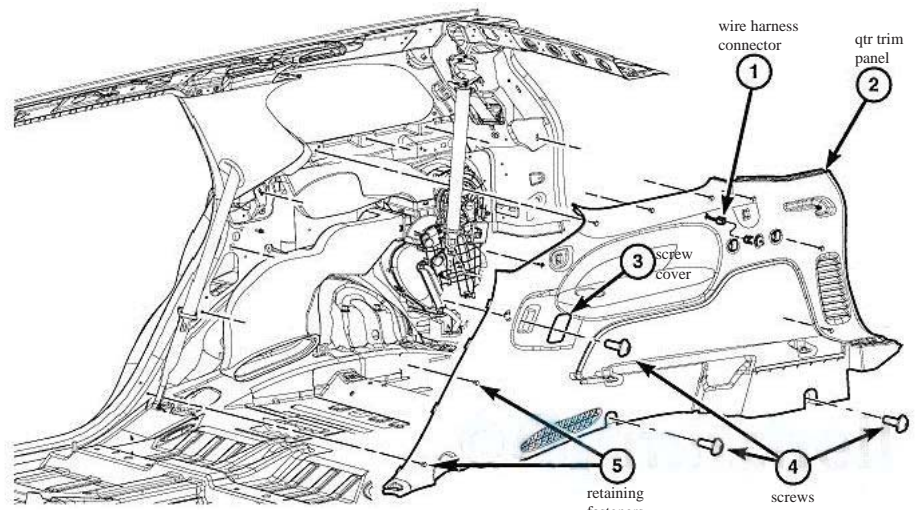

Figure 1
- A. Remove quarter trim panel beginning with all fasteners, trim covers and disconnect any wiring harnesses. (Fig 1).